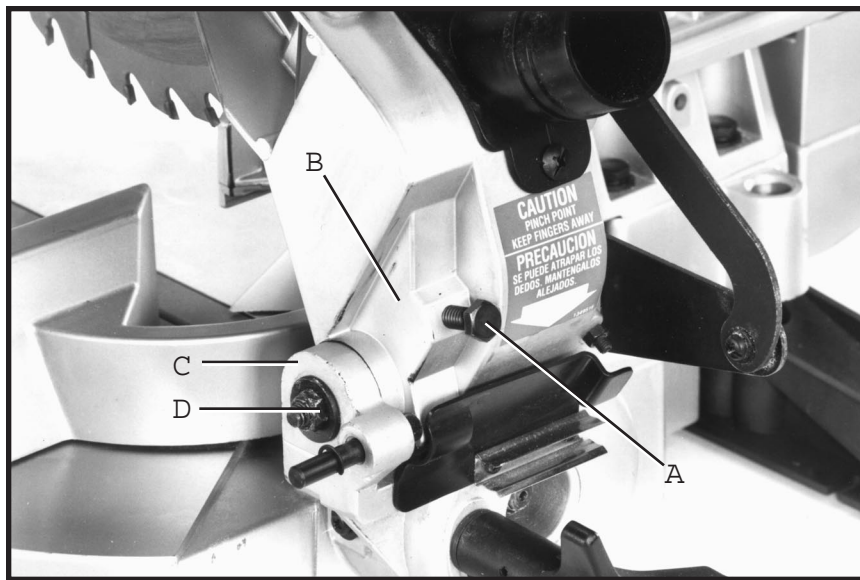

Fig. 37
1. Turn adjusting screw (A) Fig. 37, clockwise to increase or counterclockwise to decrease the spring tension.
After a long period of time it may become necessary to adjust the sliding fit between the cuttinghead arm (B) Fig. 37, and the trunnion (C) by tightening nut (D). Correct adjustment is when a good snug sliding fit is obtained between these two parts. This adjustment should not be too tight that it restricts the sliding movement of the cuttinghead arm (B) or too loose that it affects the accuracy of the saw cut.